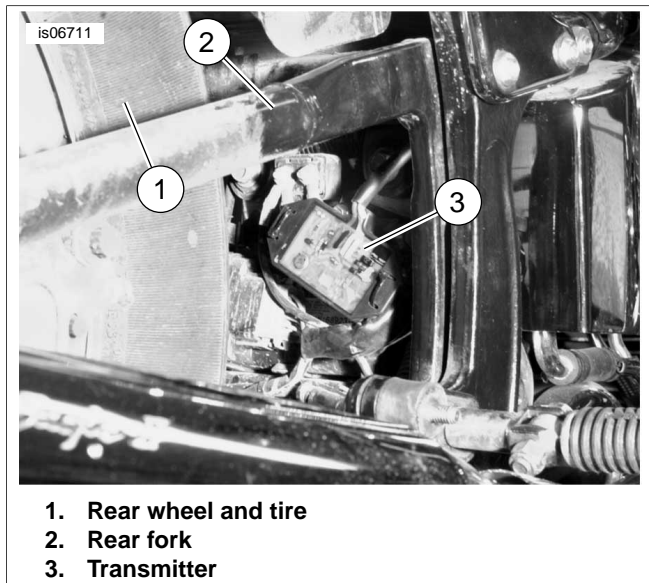

Figure 4. Transmitter Mounting, 2000 and Later Softails, Except Deuce (FLSTC Shown)
3. See Figure 4. Use cable straps from the kit to fasten the transmitter (3) to the wire harness located between the frame, rear fork (2), and rear tire (1).